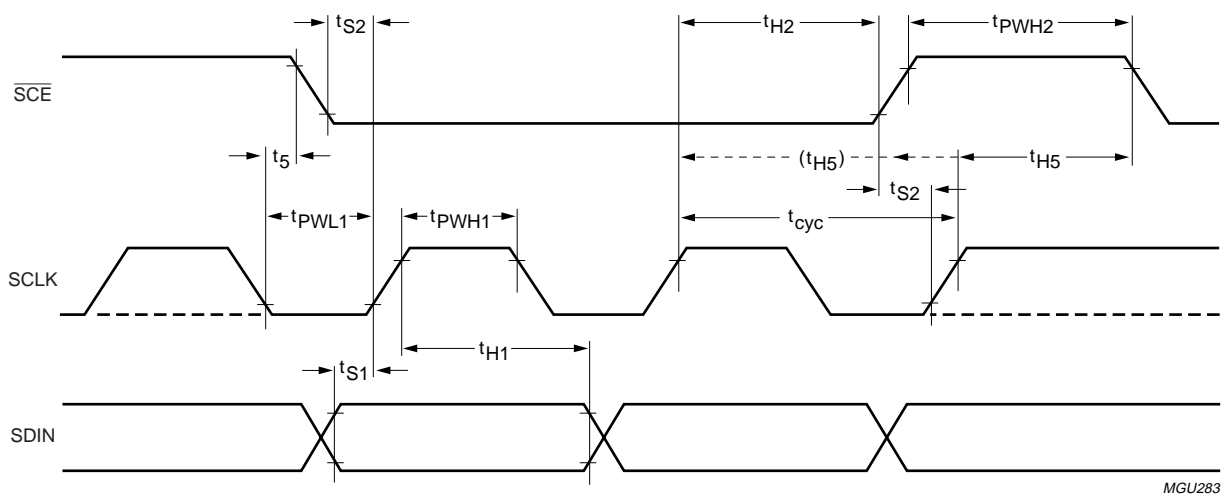

Fig.16 Serial interface timing: write mode.
- $t_{H5}$  is the time from the previous SCLK rising edge (irrespective of the state of  $\overline{SCE}$ ) to the falling edge of  $\overline{SCE}$  (see Fig.16).